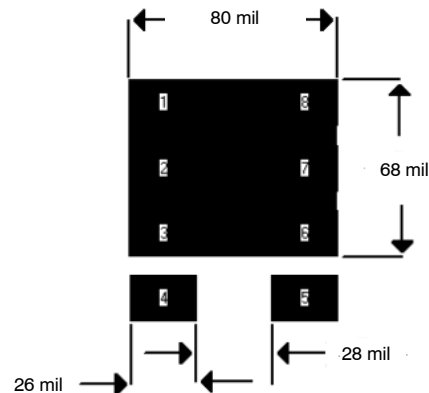
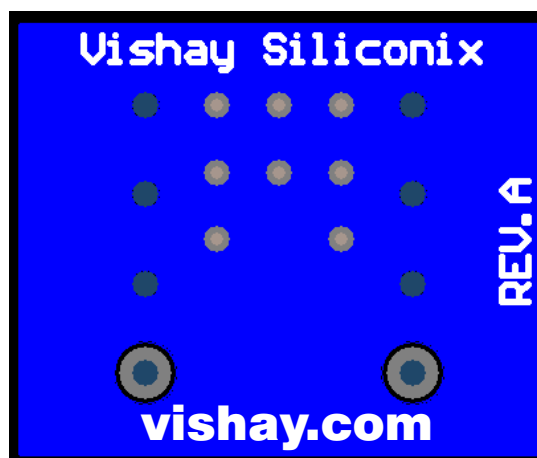

FIGURE 2. Footprint With Copper Spreading
FIGURE 3.
The pad pattern with copper spreading shown in Figure 2 improves the thermal area of the drain connections (pins 1,2,3,6,7,8) while remaining within the confines of the basic footprint. The drain copper area is 0.0054 sq. in. or 3.51 sq. mm). This will assist the power dissipation path away from the device (through the copper leadframe) and into the board and exterior chassis (if applicable) for the single device. The addition of a further copper area and/or the addition of vias to other board layers will enhance the performance still further. An example of this method is implemented on the Vishay Siliconix Evaluation Board described in the next section (Figure 3).
1) Minimum recommended pad pattern (see Figure 2) on the evaluation board size of 0.5 in x 0.6 in.	156°C/W
2) The evaluation board with the pad pattern described on Figure 3.	111°C/W